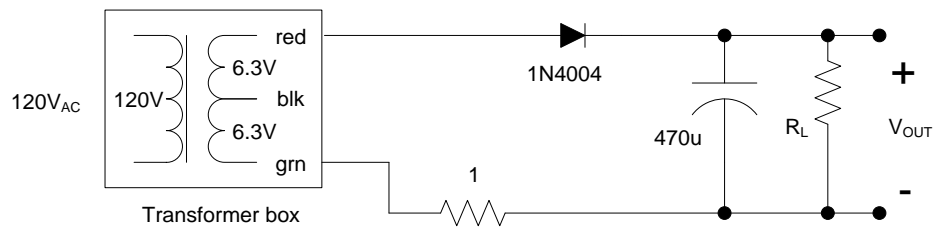
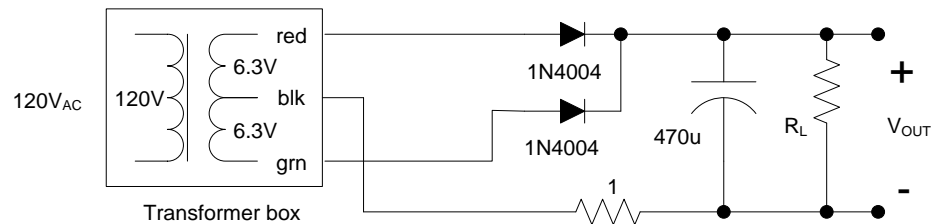

Figure 2 Half-wave rectifying circuit.
Figure 3 Full-wave rectifying circuit.
You will construct several rectifier circuits in the lab. The circuit in Figure 2 is a half-wave rectifier circuit that is connected across the full secondary winding of the transformer box. The  $1\ \Omega$  resistor will be used to measure the diode current.
The circuit in Figure 3 is a full-wave rectifier circuit that is connected across half of the secondary winding of the transformer box while using the center tap.
Question 1. Calculate the theoretical ripple voltage,  $V_R$ , and peak current,  $I_P$ , for the half-wave rectifier in Fig. 2 and the full-wave rectifier in Fig. 3. The total load for these calculations will be three parallel 2 K $\Omega$  resistors. Use 0.7 V for the diode drop,  $V_F$ . The United States electric utility system operates at 60 Hz.
Question 2. For the half-wave rectifier circuits shown in Fig. 2, simulate the voltage across the load  $R_L$  and the current through the diode with LT Spice. The full transformer secondary voltage is 12.6 VRMS. Model four cases where load is open  $R_L = \infty$ , 2 K $\Omega$ , 2 K $\Omega$  // 2 K $\Omega$ , 2 K $\Omega$  // 2 K $\Omega$  // 2 K $\Omega$ . The United States electric utility system operates at 60 Hz.
Question 3. For the full-wave rectifier circuits shown in Fig. 3, simulate the voltage across and current through the load  $R_L$  if  $R_L = 2 \text{ K}\Omega$ . The full transformer secondary voltage is  $12.6 \text{ V}_{\text{RMS}}$ . Show the LT Spice model for the full-wave rectifier in the textbox below. Also plot the voltage  $V_o$  and current  $I(R_L)$  after the circuit reaches a steady state.
Question 4. From the results in Questions 1 and 2, find the ripple voltage,  $V_R$ , and peak current,  $I_P$ , for the half-wave rectifier and the full-wave rectifier in Figure 3. Calculate the load regulation for both rectifiers. Fill the results in the table 1 below.
Question 5 (extra credit for good justification and trying other formula). In a rectifier circuit with a filter capacitor, there will be a large surge current when it is first turned on with the filter capacitor completely discharged. Consider the half-wave rectifier circuit shown in Figure 2. Assume the 120:12.6 transformer is connected to an ideal 120 VRMS source, and that the transformer has  $R_{pri} = 50 \, \Omega$  and  $R_{sec} = 0.5 \, \Omega$ . Assume that the diode and capacitor are ideal. Disregard the 1  $\Omega$  current sense resistor. Estimate the worst-case peak surge current that you would expect to flow through the diode. Explain the rationale for your answer.
Construct the half-wave rectifier shown in Figure 2. Do not install a load resistor at this time.
8. Construct the full-wave rectifier circuit shown in Figure 3 and repeat the measurements as done for the half-wave rectifier. Show the plots of ripple and current as done in 5-6.